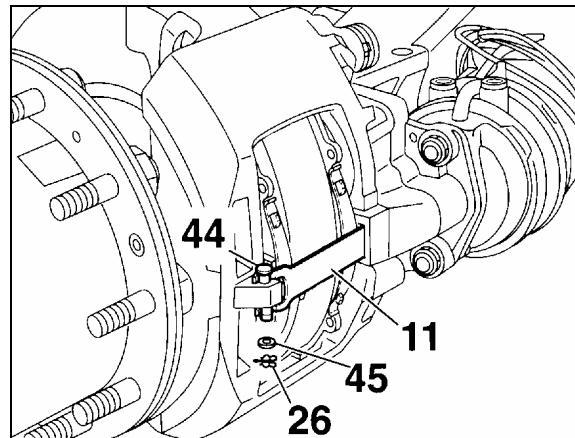

FIGURE 23: CLEARANCE INSPECTION
Remove clip and washer (26 & 45, Fig. 23), push down retainer bar (11), pull out pin (44) and remove retainer bar. Push caliper toward actuator (center of vehicle) for maximum clearance.